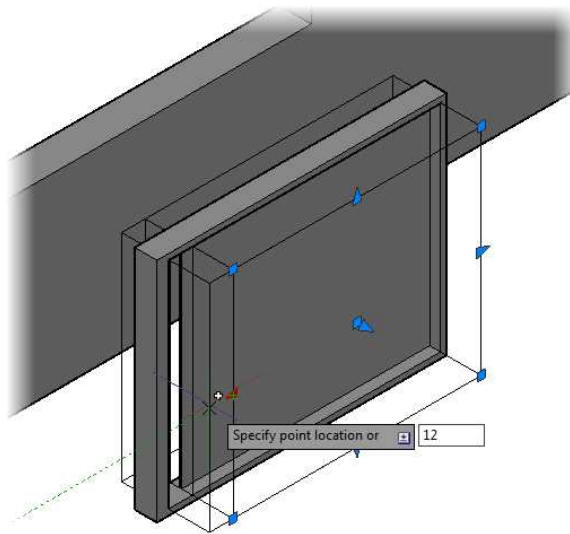

FIGURE 16.38: Adjusting the size of the box from the Subtract Boolean operation
9. Enter **12↵ (305↵)**, as shown in Figure 16.38.